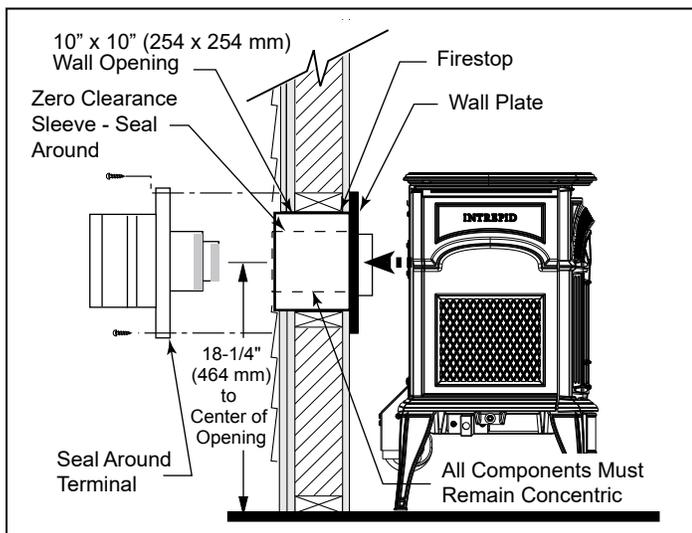

Figure 3.21 - Intrepid minimum horizontal rear vent installation.
- Install the vent terminal, Figure 3.21. Guide the inner and outer vent termination collars into the adjacent pipes. Double check that the vent pipes overlap the collars by 2". Fasten the termination to the outside wall with the screws provided, and caulk the joint with weatherproof sealant.